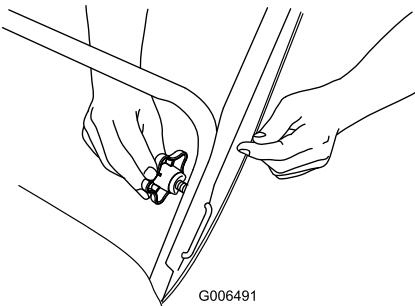

Figure 5
1. “U”-shaped handle lock (2) 2. Handle knobs
- Insert the end of the “U”-shaped handle lock into the open hole in the handle and tighten the handle knobs until they are snug (Figure 5).